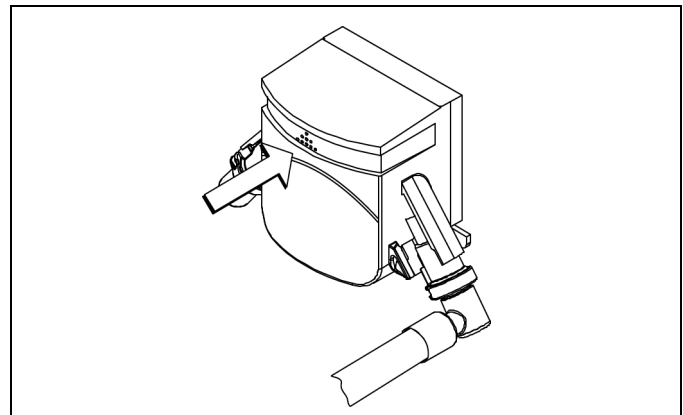

Figure-67
12. Open the pump by pushing up on the hinged cover. (See the arrow in See Figure-67.)